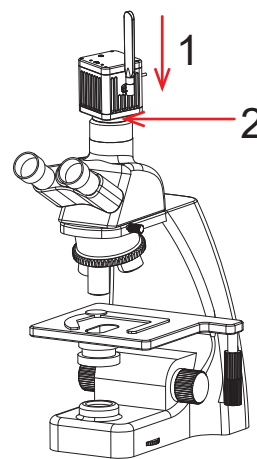

Figure 16
- (2) Snap the camera onto the dovetail slot or screw it onto the standard C -mount of the microscope, oriented as in Figure 16; tighten the fastening screws on the dovetail slot of the microscope, fix the camera on the microscope.